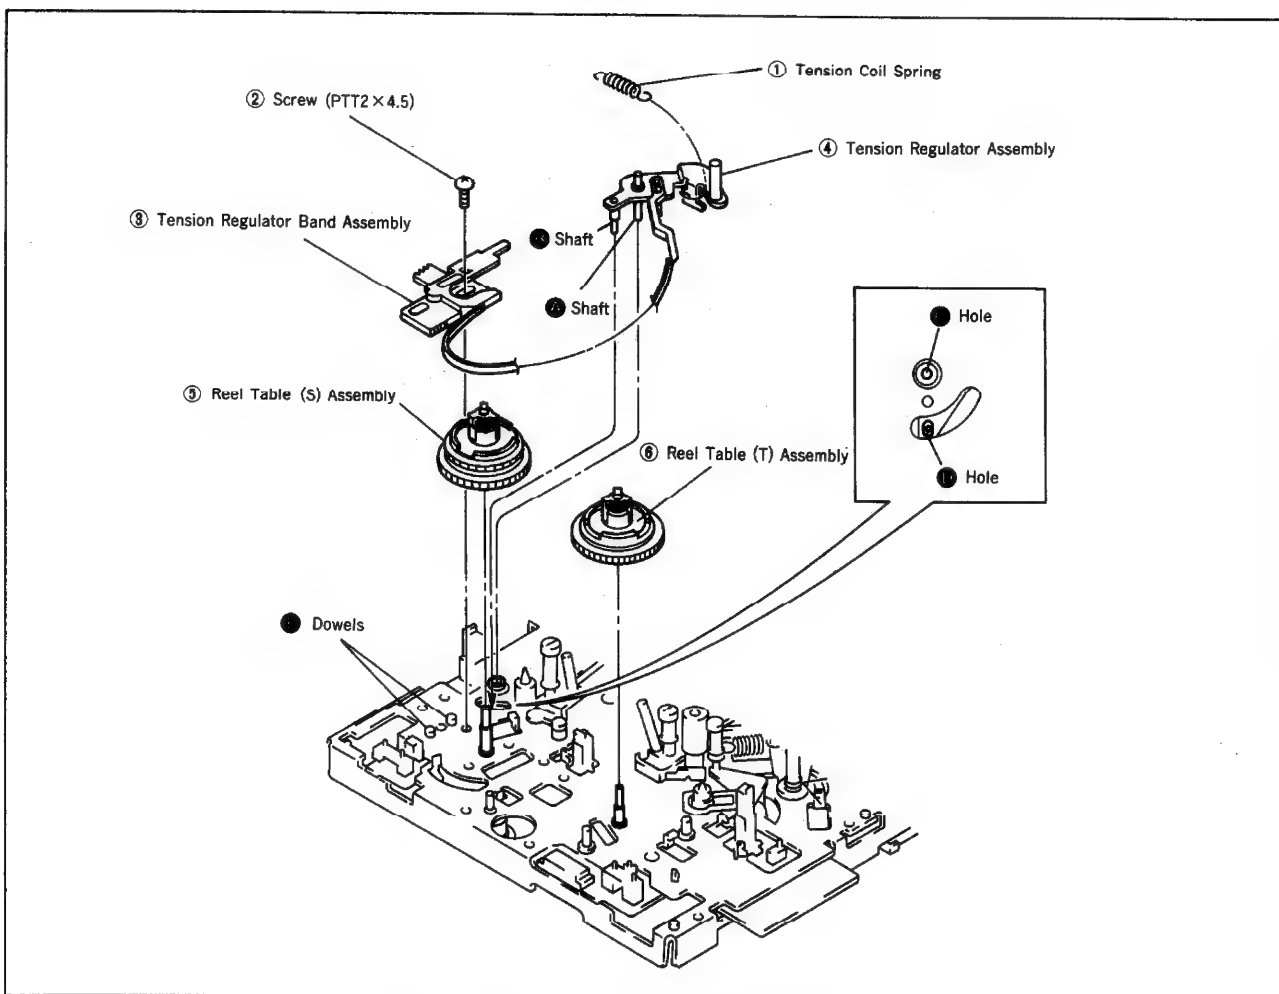

Fig. 12
#### 4-6. TENSION REGULATOR ASSEMBLY, REEL TABLE (S) ASSEMBLY AND REEL TABLE (T) ASSEMBLY (Fig. 12)